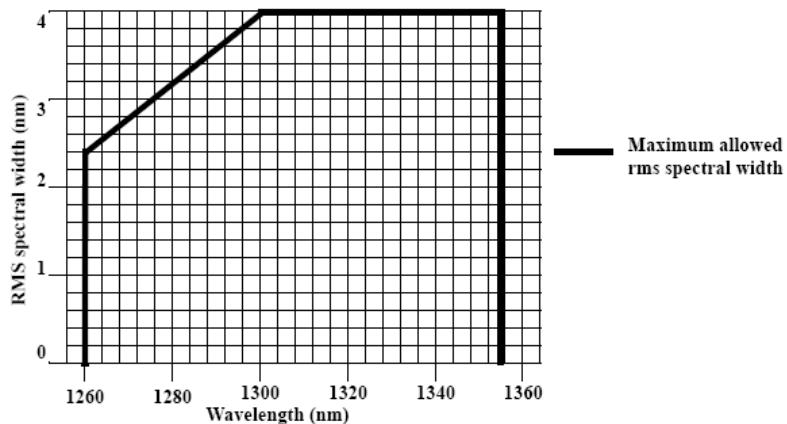

Figure 1. 10GBASE-LRM Transmitter spectral limits
- Refer to the spectral limits curve in Figure 1.